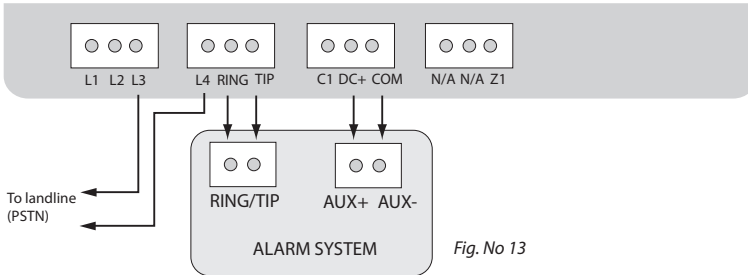

Fig. No 13
1. Connect the circuit as indicated in Fig. No. 13 – connect telephone contacts of the alarm system RING/TIP to RING/TIP contacts of communicator.